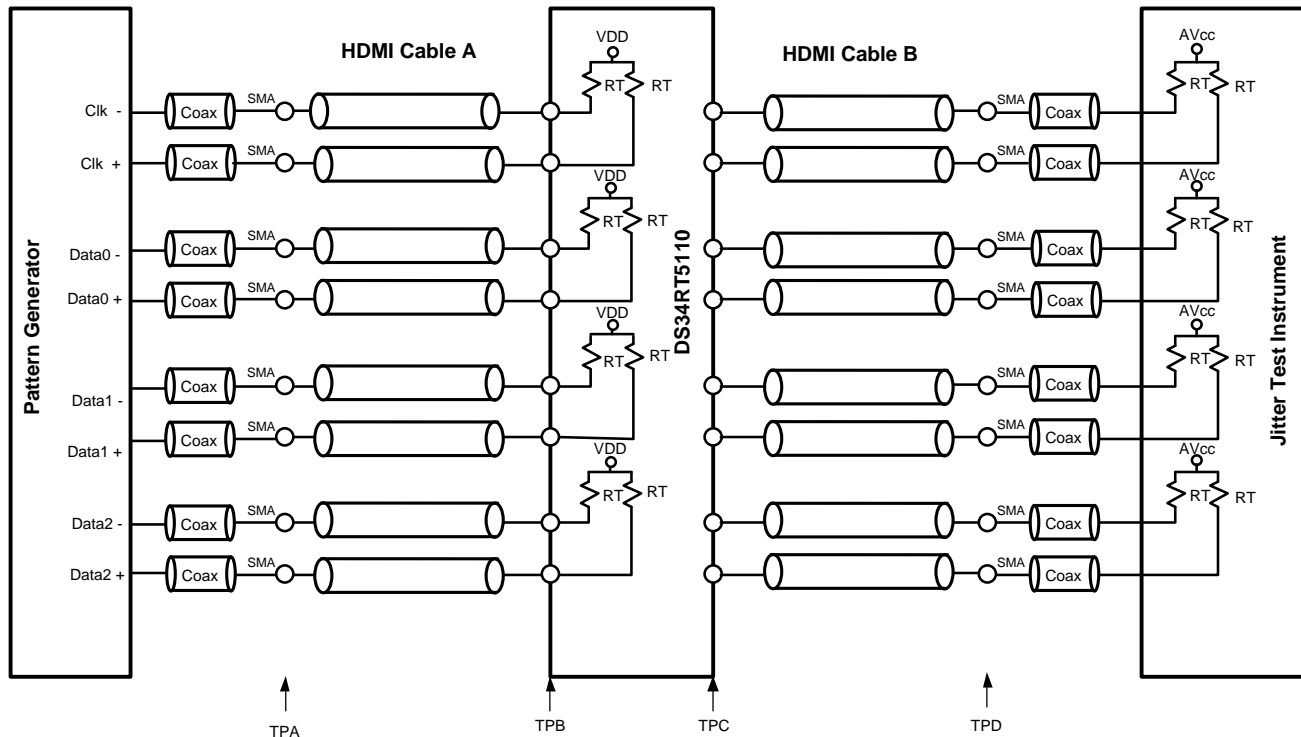

Figure 1. Test Setup Diagram
(3) Parameter is ensured by statistical analysis and/or design.
(4) Deterministic jitter is measured at the differential outputs (TPC of Figure 1), minus the deterministic jitter before the test channel (TPA of Figure 1). Random jitter is removed through the use of averaging or similar means.
(5) Total Jitter is defined as peak-to-peak deterministic jitter from + 12 times random jitter (ps).
(6) Random jitter contributed by the equalizer is defined as  $\sqrt{J_{OUT}^2 - J_{IN}^2}$ . JOUT is the random jitter at equalizer outputs in ps-rms, see TPC of Figure 1; JIN is the random jitter at the input of the equalizer in ps-rms, see TPA of Figure 1.
- (7) Parameter is ensured by statistical analysis and/or design.
- (8) Deterministic jitter is measured at the differential outputs (TPC of Figure 1), minus the deterministic jitter before the test channel (TPA of Figure 1). Random jitter is removed through the use of averaging or similar means.
- (9) Total Jitter is defined as peak-to-peak deterministic jitter from + 12 times random jitter (ps).